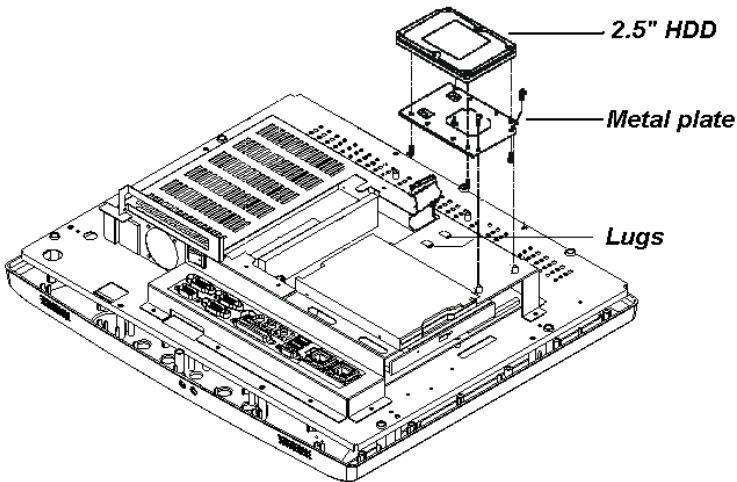

Figure C.2: Installing the Primary 2.5" HDD
2. There is a metal plate which holds the HDD to the upper right-hand side of the metal shielding case. (See Figure C-2.) Remove the two screws on the metal plate.